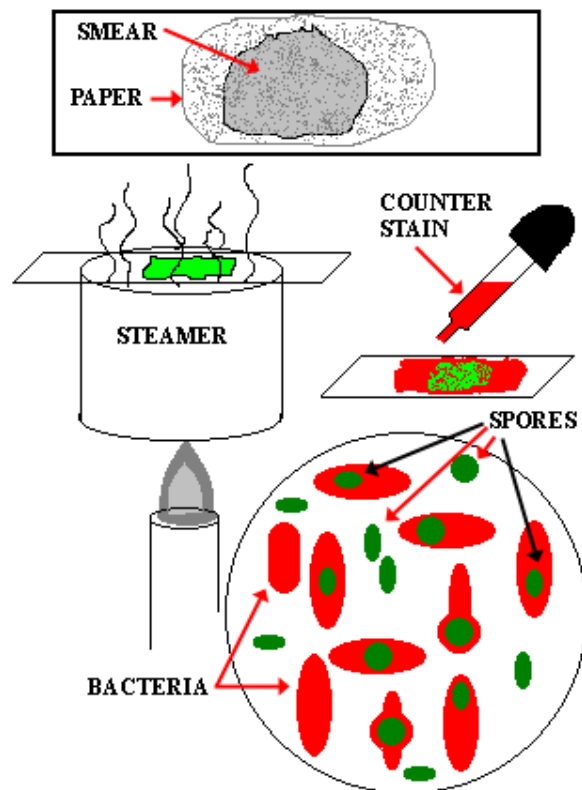

Figure 1. Spore stain procedure
- a. Drop Spore stain onto the smear and cover with a piece of paper towel. The paper towel must be cut so that it does not extend beyond the sides of the slide (Figure 1.)